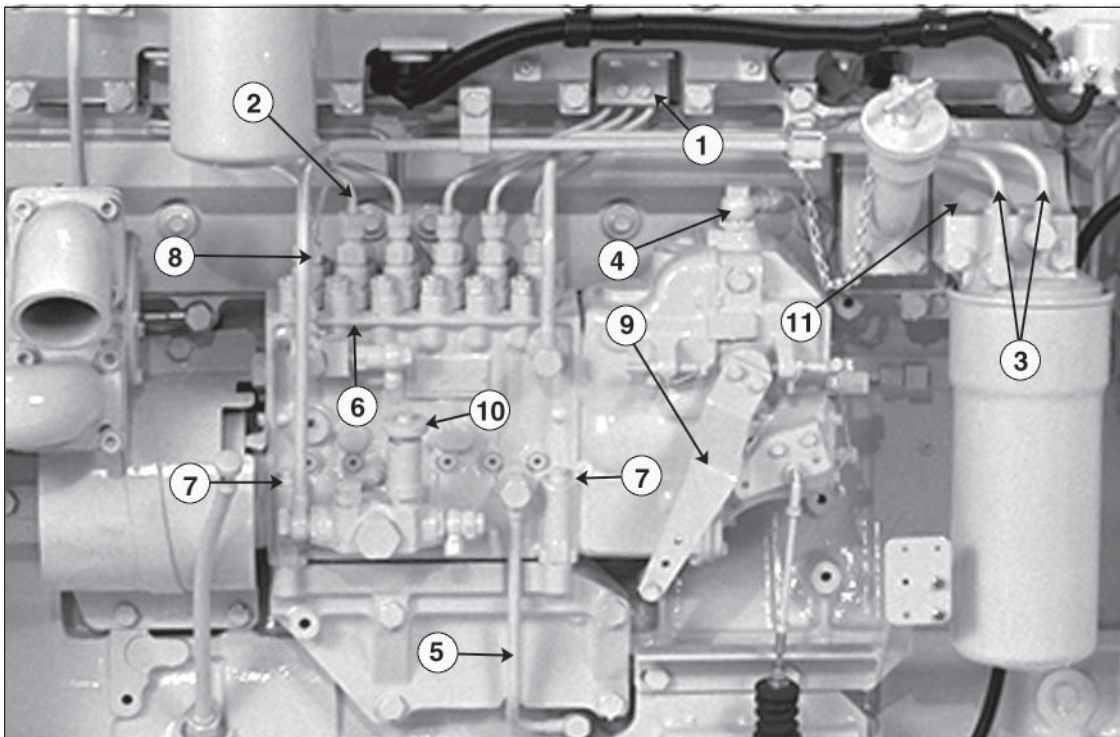

Figure 11. Injection Pump Servicing Points
2. To bleed the fuel system, loosen the vent plug in the top of the fuel filter housing. Unscrew the hand primer knurled knob on the injection pump and loosen until it can be pulled up by hand (see Fig. 11,10). Operate the hand primer up and down until most of the air bubbles are expelled and clear fuel escapes the vent plug. Push hand primer down and tighten. Tighten the vent plug.